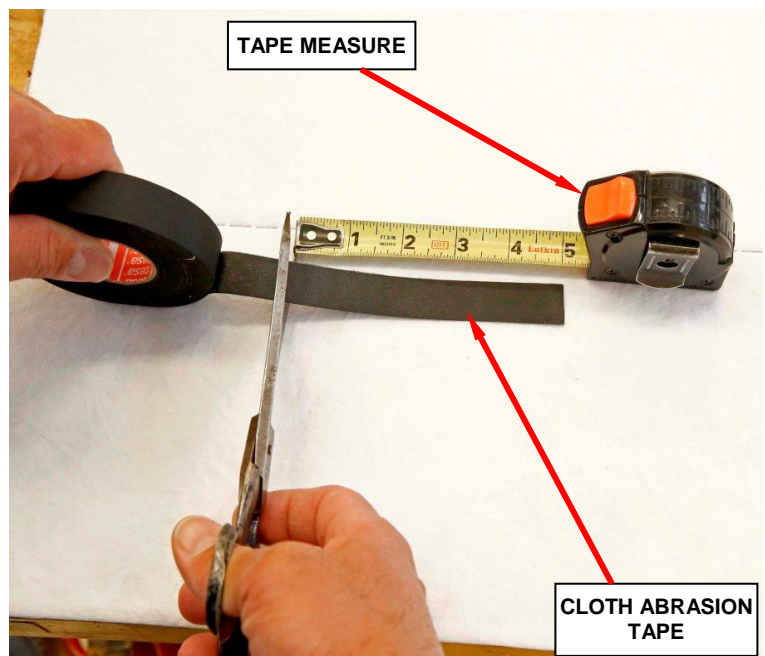

Figure 19 – Cut Two Piece of Cloth Abrasion Tape
45. Cut two pieces of cloth abrasion tape 5 inches (125 mm) long (Figure 19).